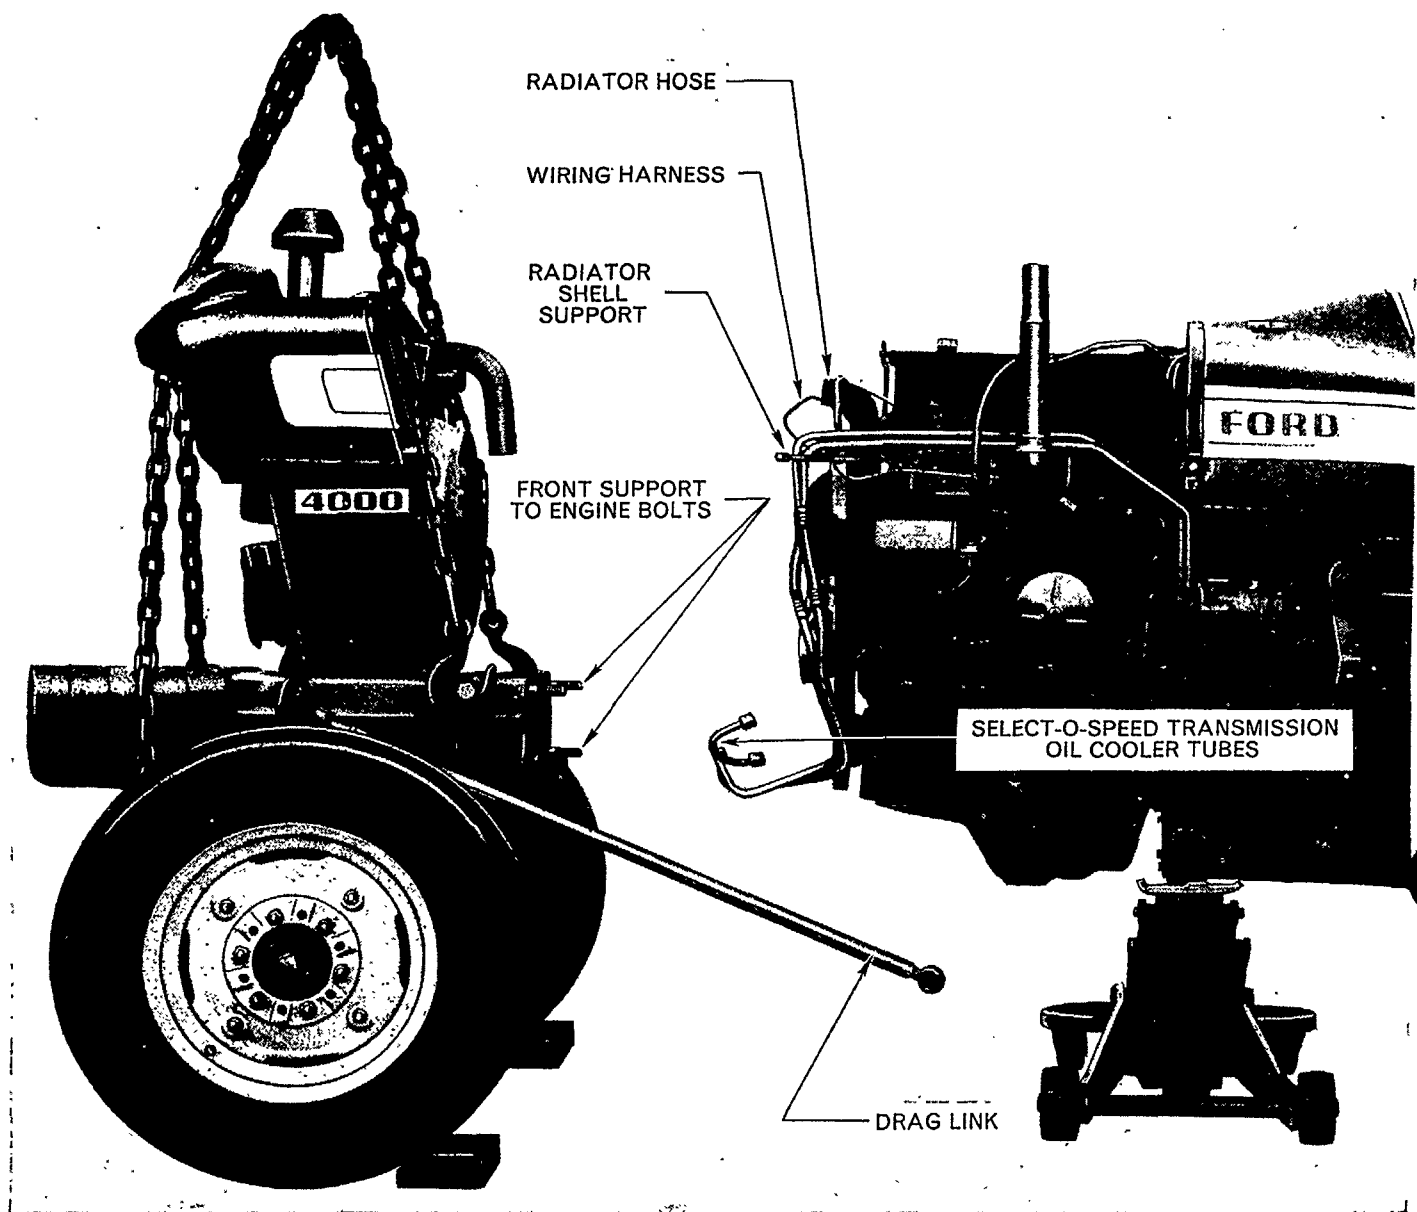

Figure 9
8. Loosen the radiator hose clamps and disconnect them from the radiator. Loosen the air cleaner hose clamp, Figure 9.